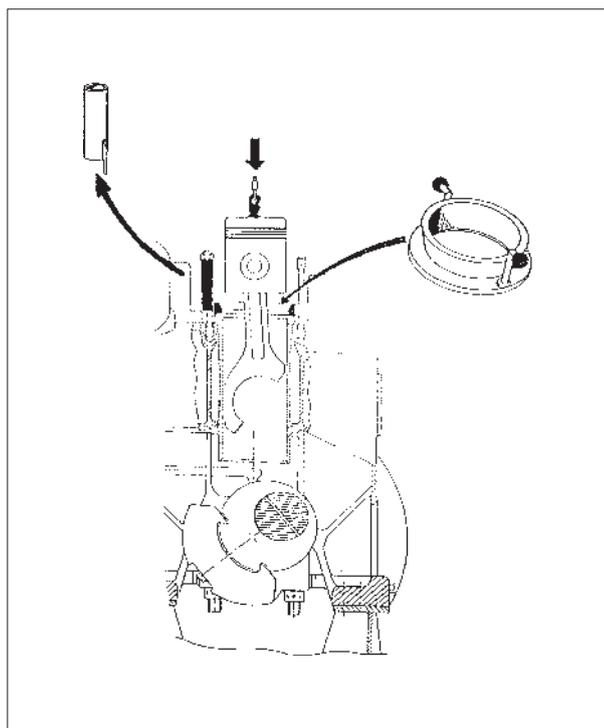

Fig. 1.
- 3) Remove the backstop for cylinder liner and place the piston guide ring on top of the cylinder liner, see fig. 1.